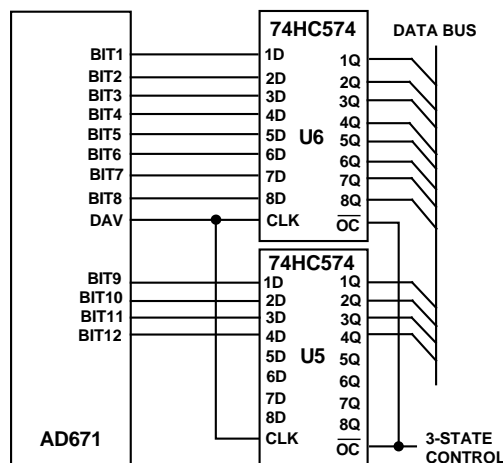
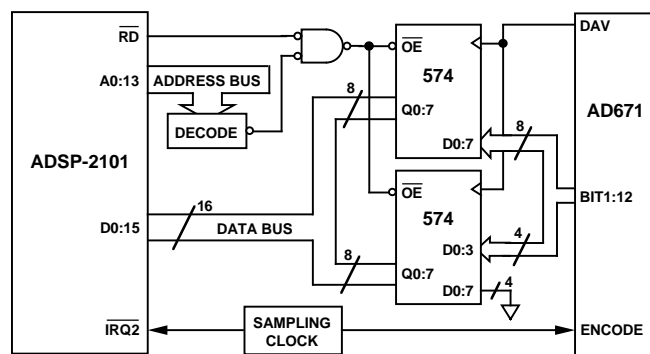

Figure 10. AD671 to Output Latches
Figure 20. AD671 to ADSP-2101/ADSP-2102 Interface
Figure 10 shows the AD671 connected to the 74HC574 Octal D-type edge triggered latches with 3-state outputs. The latch can drive highly capacitive loads (i.e., bus lines, I/O ports) while maintaining the data signal integrity. The maximum set-up and hold times of the 574 type latch must be less than 20 ns (t_{DD} and t_{SS} minimum). To satisfy the requirements of the 574 type latch the recommended logic families are HC, S, AS, ALS, F or BCT. New data from the AD671 is latched on the rising edge of the DAV (Pin 24) output pulse. Previous data can be latched by inverting the DAV output with a 7404 type inverter. See Figures 20, 21 and 22 for PCB layout recommendations.
Figure 20 is identical to the 2100A interface except the sampling clock is used to generate an interrupt (IRQ2) for the processor. Upon interrupt the ADSP-2101A starts a data memory read by providing an address on the Address (A) bus. The decode address generates OE for the D-latches and the processor reads their output over the Data (D) bus. Reading the conversion result is thus completed within a single processor cycle.